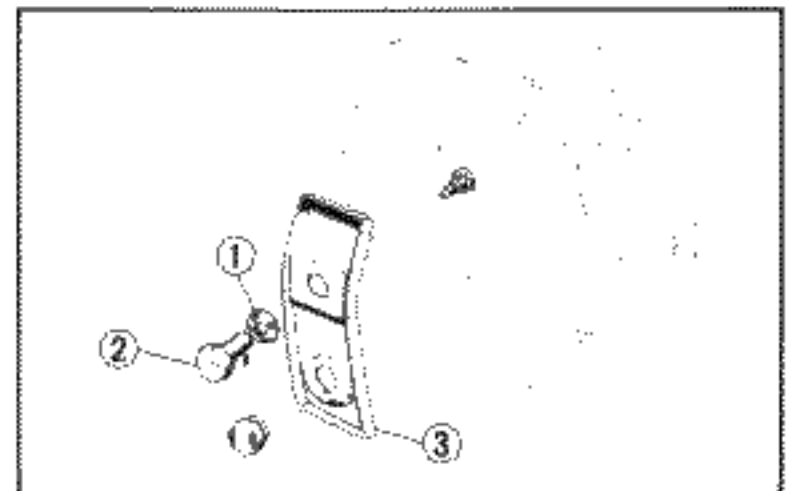

Fig. 15-3 ① Ring Nut ⑨ Switch Panel
2. Remove the switch panel: Remove the lighting knob and its ring nut. (Fig. 15-3)